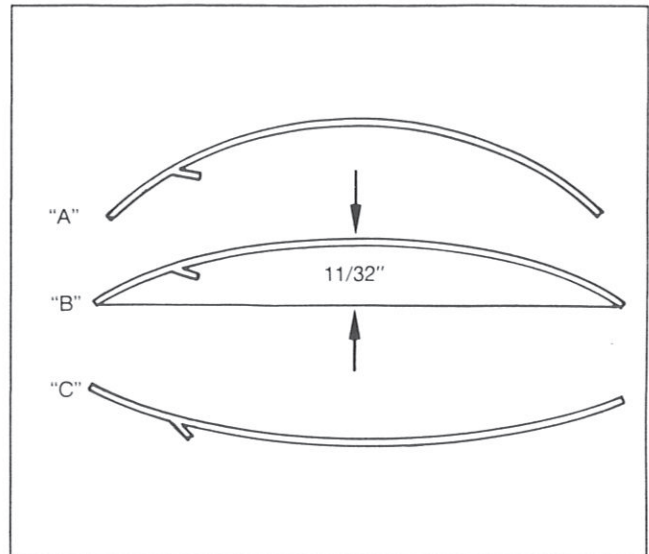
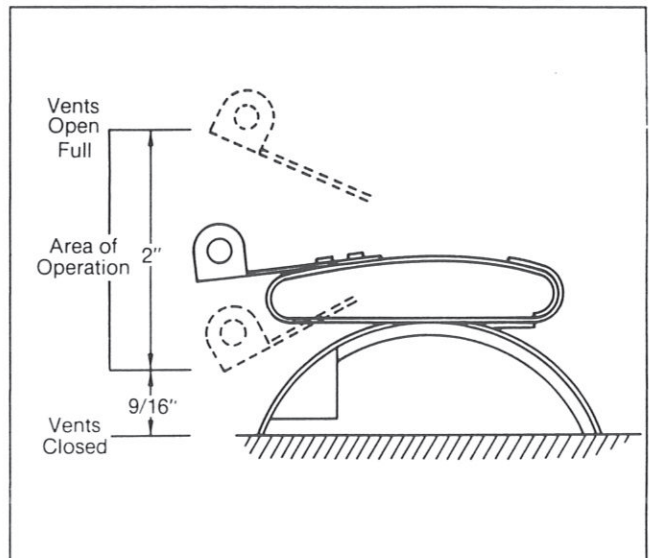

Figure 13 (Drawn to Scale)
Figure 14
The float provides the energy to open and close the valve assembly. The shape of the bias band can affect the force required to open and close the valve assembly, and consequently, affects the buoyancy of the float. When a unit is assembled at the factory, the bias band has the approximate shape as shown in Figure 13, Shape "B". This shape results in the valve assembly assuming a position as shown in Figure 14. The valve is partially open and requires very little vertical force to close or open further. This adjustment should be satisfactory for the majority of applications. If it is necessary to alter the float buoyancy for a particular application, the bias band should be altered in the following manner:
1. If the curve of the bias band is increased, as shown in Figure 13, Shape "A", the valve wants to open and less air will have to be accumulated in the air eliminator before the float drops to open the vent. This shape makes the float more vulnerable to being pulled down at high flow rates. If this is overdone, the float could have difficulty in closing the valve, and product could be vented when there is no air in the air eliminator.
2. If the curve of the bias band is decreased so it is less curved, flat, or even reversed curved, as shown in Figure 13, Shape "C", the valve wants to close and more air will have to be accumulated in the air eliminator before the float drops and the vents open. This shape makes it unlikely that the float will be pulled down at high flow rates. If this is overdone, the float could have difficulty in opening the valve and the float could "hang" in the air with the valve closed.
The valve assembly only operates in the area shown in Figure 14. There are stops in the closed and full open position, therefore, any buoyancy adjustments need be concerned with only the area of operation.